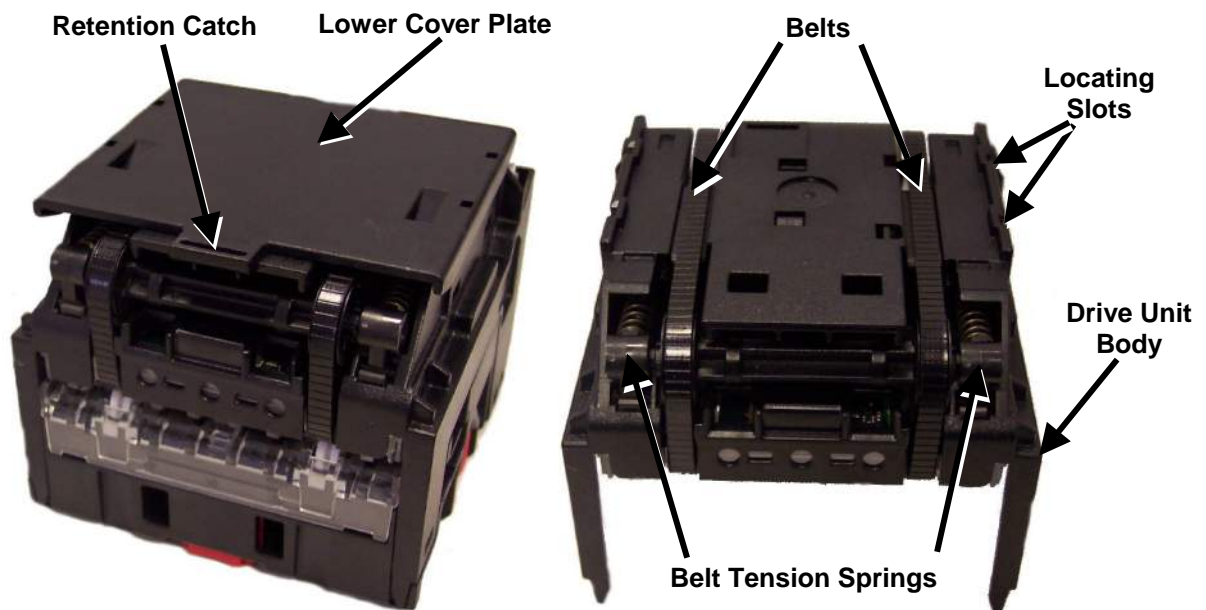

Figure 11 - NV8 Belt Access
- Remove the lower cover plate by lifting up the retention catch and carefully sliding it back (see figure 11).